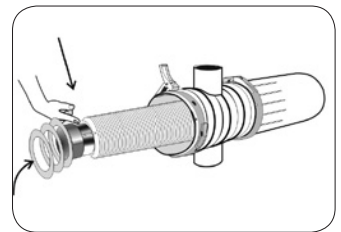

Figure 8
- Check that the correct quantity of discs is assembled on the spine. When the discs are pressed with two hands, the top disc should be level with the imprinted white line on the outside of the spine (Figure 8).